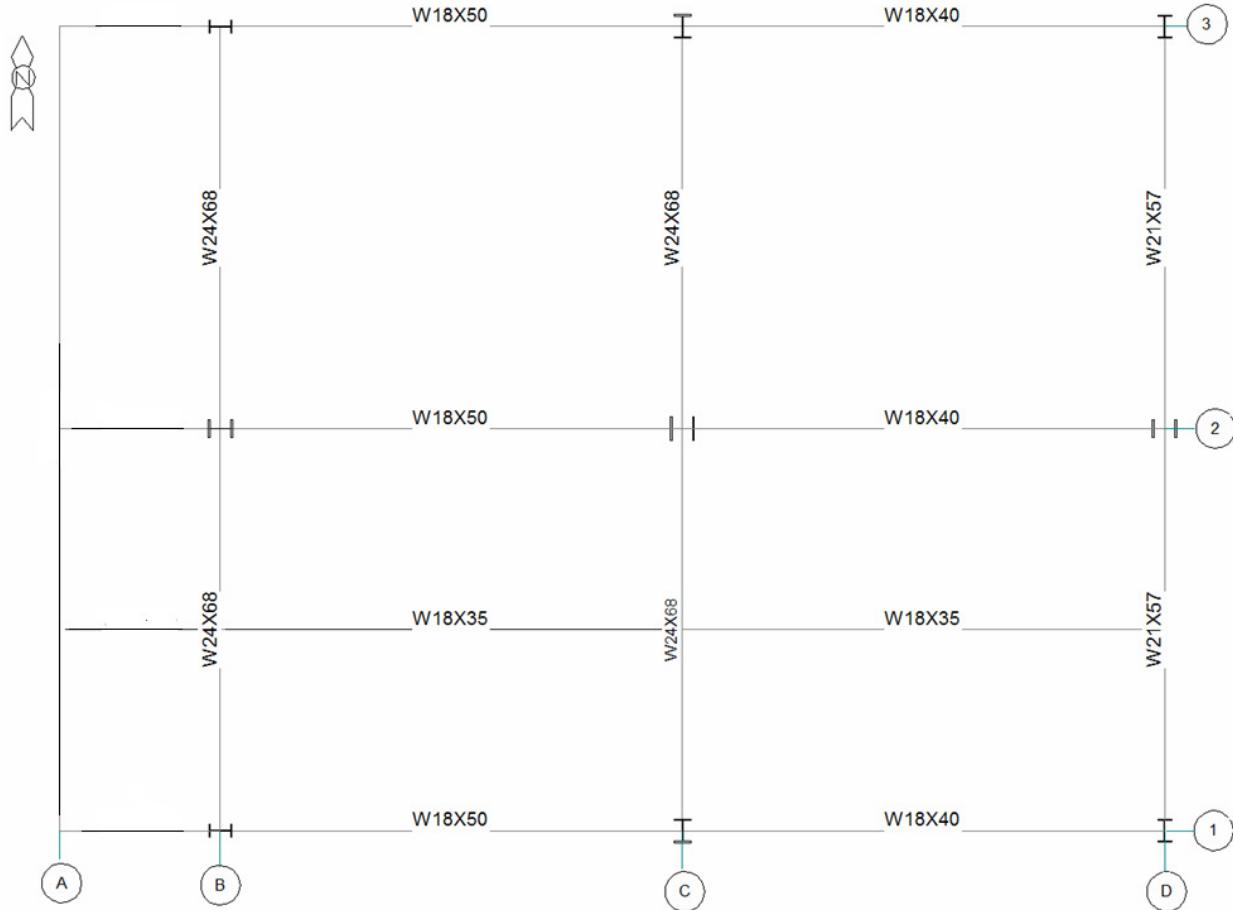

Figure 5 – Second Floor Plan
23. Use the Second Floor Plan as shown in Figure 5 to place the beams at elevation 31'- 0".